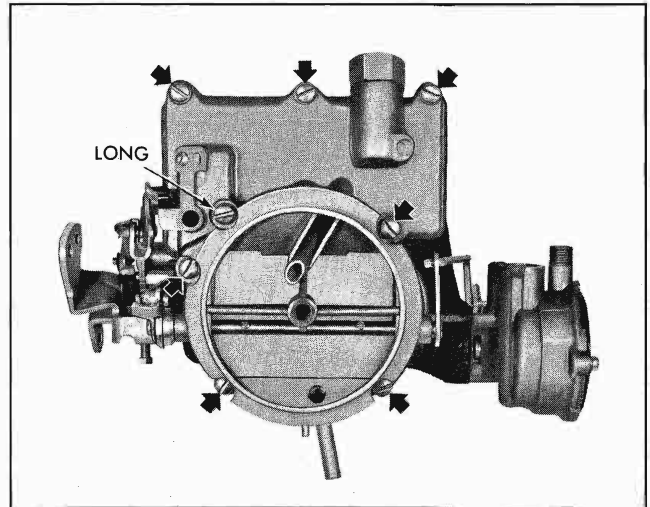

Fig. 6B-19 Location of Cover Attaching Screws
9. Remove retainer on pump plunger shaft, remove plunger assembly from pump arm (Fig. 6B-21). The pump lever and shaft may be removed by loos-